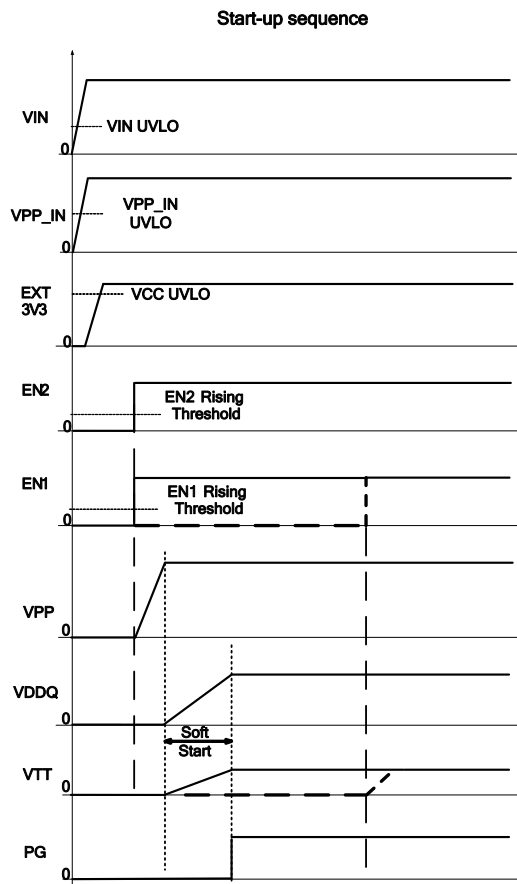

Figure 7: Start-Up Power Sequence
The NB687 employs a soft-start (SS) mechanism to ensure a smooth output during power-up. When EN rises high, the internal reference voltage ramps up gradually, and the output voltage ramps up smoothly as well. Once the reference voltage reaches the target value, the soft start finishes, and the device enters steady-state operation (see Figure 7).